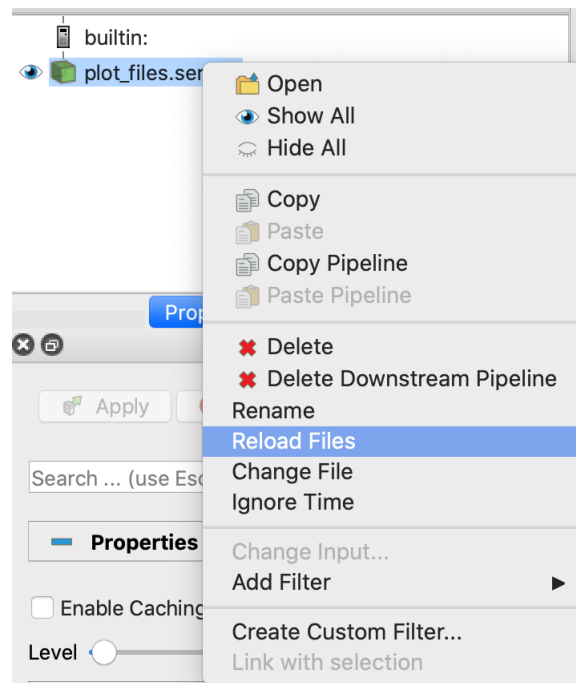
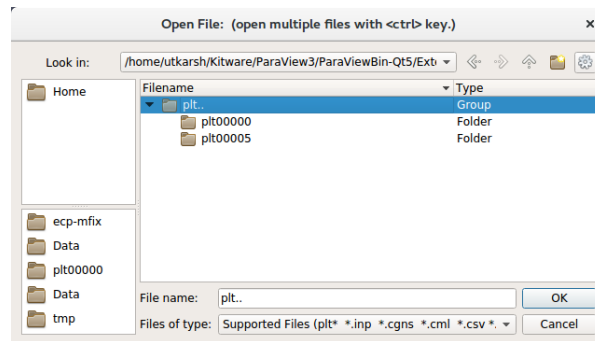

Fig. 18.2: : File dialog in ParaView showing how to reload a series file
Fig. 18.3: : File dialog in ParaView showing a group of plotfile directories selected
2. Navigate to your run directory, and select the fluid or particle plotfile. Note that you can either open single or multiple plotfiles at once by selecting them one by one or select a file ensemble, labeled as `plt..` and indicated as a Group in the “Type” column of the file explorer (see Fig. 18.3). In the latter case, ParaView will load the plotfiles as a time series. ParaView will ask you about the file type – choose “AMReX/BoxLib Grid Reader” or
Open ParaView, and then select “File” → “Open”. In the “Files of Type” dropdown menu (see Fig. 18.3) choose the option `All Files (*)`. Then choose `plot_files.series` and click “OK”. Now the plotfiles have been loaded as a Group as in Step 2 of section *ParaView*. Now, you can follow the steps 2 to 7 in the section *ParaView* to plot. As new plotfiles are generated, just re-run the bash script to re-generate the `plot_files.series` file, right-click on `plot_files.series` in the ParaView menu, and click on “Reload Files” (see Fig. 18.2).
1. Run ParaView v5.7, and select “File” → “Open”. You will see a combined “plt..” group. Click on “+” to expand the group, if you want to inspect the files in the group. You can select an individual plotfile directory or select a group of directories to read them as a time series, as shown in Fig. 18.3, and click “OK”. ParaView will ask you about the file type – choose “AMReX/BoxLib Particles Reader”.